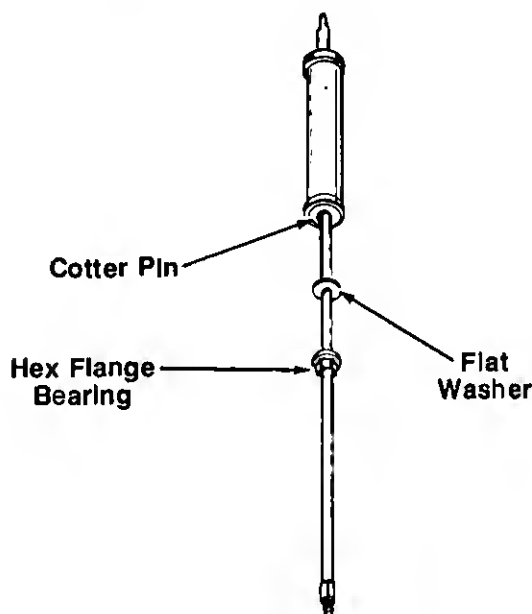

FIGURE 4.—Model 13504 Only
4. Hold the steering shaft upright, so that the cotter pin is closer to the top of the shaft. Slide the steering tube spacer and steering tube down over the shaft (above the cotter pin). See figure 4.
5. Slip flat washer (1 1/4" diameter) on the steering shaft immediately below the cotter pin. Place one plastic hex flange bearing flat side up, below the washer. See figure 4.